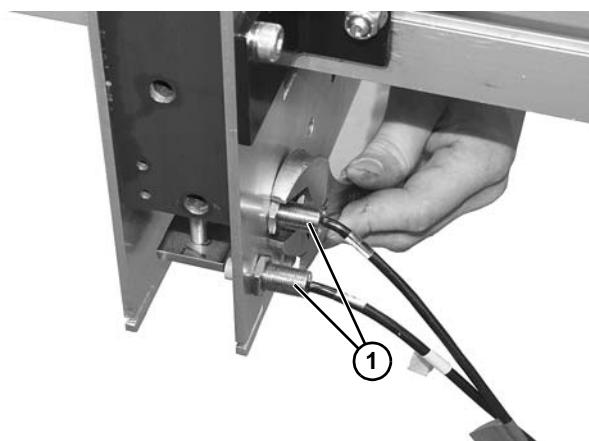

Figure 20
- c. Remove plastic cover and mount sensors (**Figure 20, item 1**) to lift frame. Install side cover with screw.